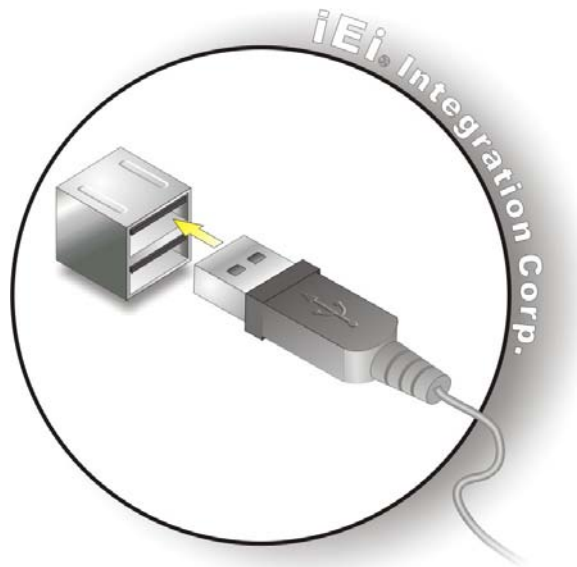

Figure 3-20: USB Device Connection
Step 2: Align the connectors. Align the USB device connector with one of the connectors on the TANK-610-BW. See **Figure 3-20**.